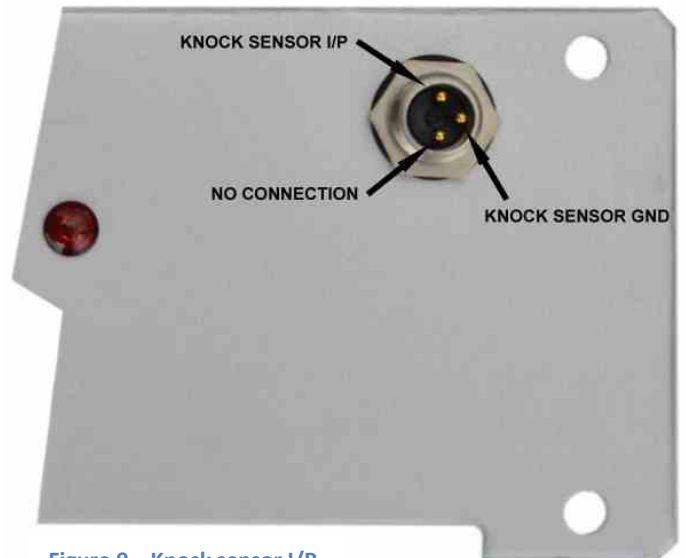

Figure 9 Knock sensor I/P
2.4.2 SM4 (or SM3) ECUs must be connected to the Knock Sensor using the back panel connector (See Fig 9). Use the supplied flylead to connect to the OEM wiring.